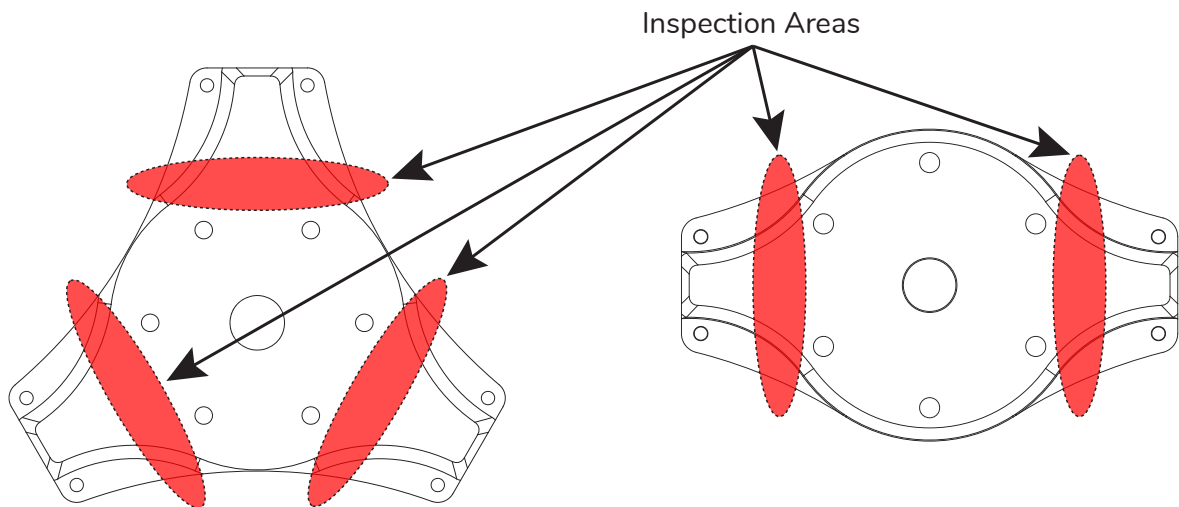
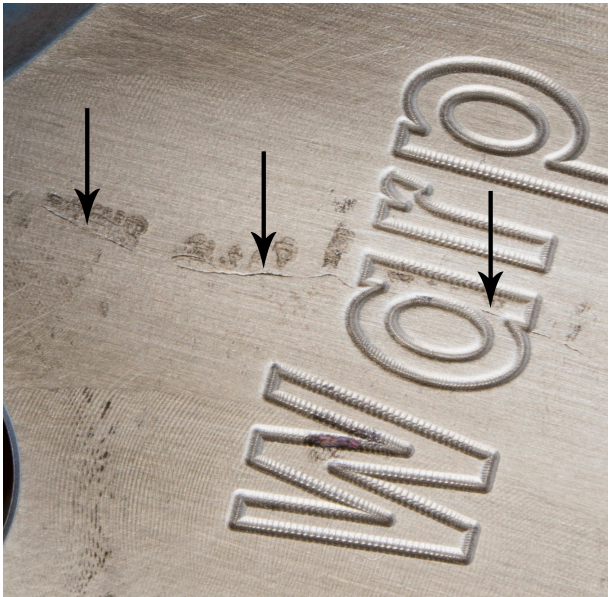

Figure 3: HP Hub Inspection Areas
Figure 4: Initial Crack
7. Visually inspect both hub halves using a flashlight and a 10x magnifying glass. Pay close attention to the areas shown in Figure 3. Figures 4 and 5 below show crack examples.